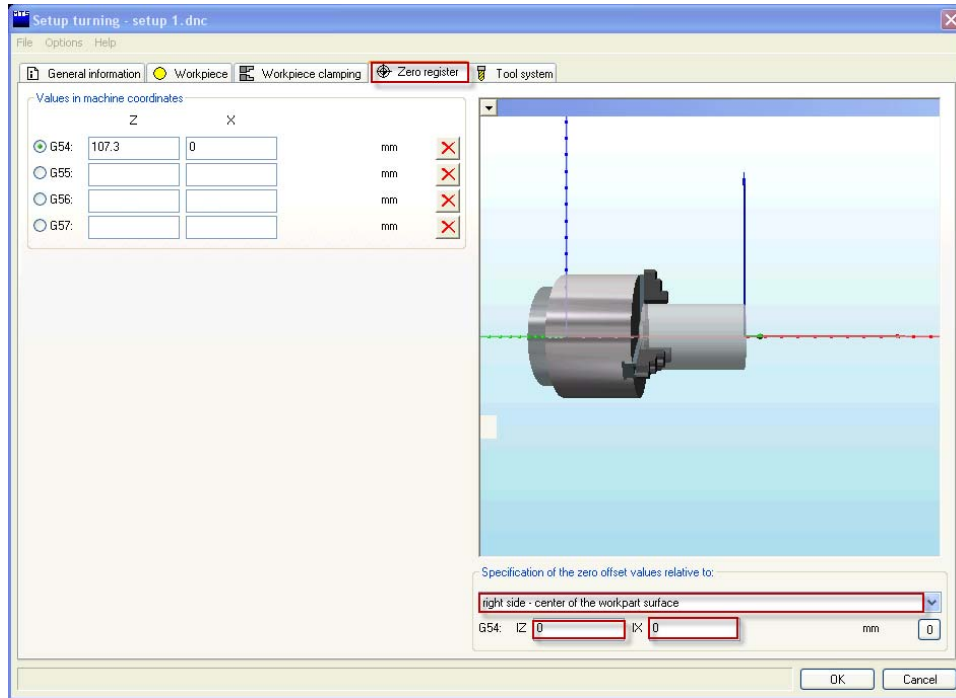

Fig. 2.13: Zero register tab
6. Click on tab 4: **“Zero register”** to fill in the information related to the workpiece Zero point as shown in Fig. 2.13.